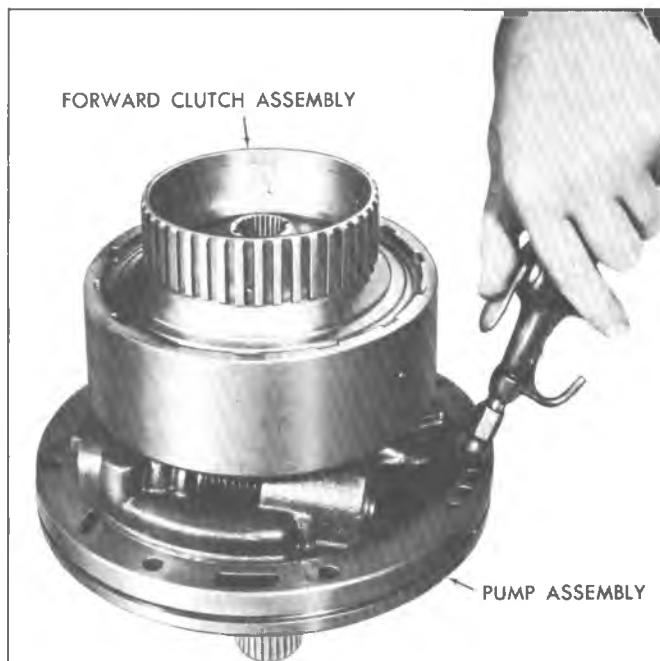

Fig. 77T-Air Checking Forward Clutch Assembly
12. Place forward clutch housing on pump delivery sleeve and air check clutch operation (fig. 77T).